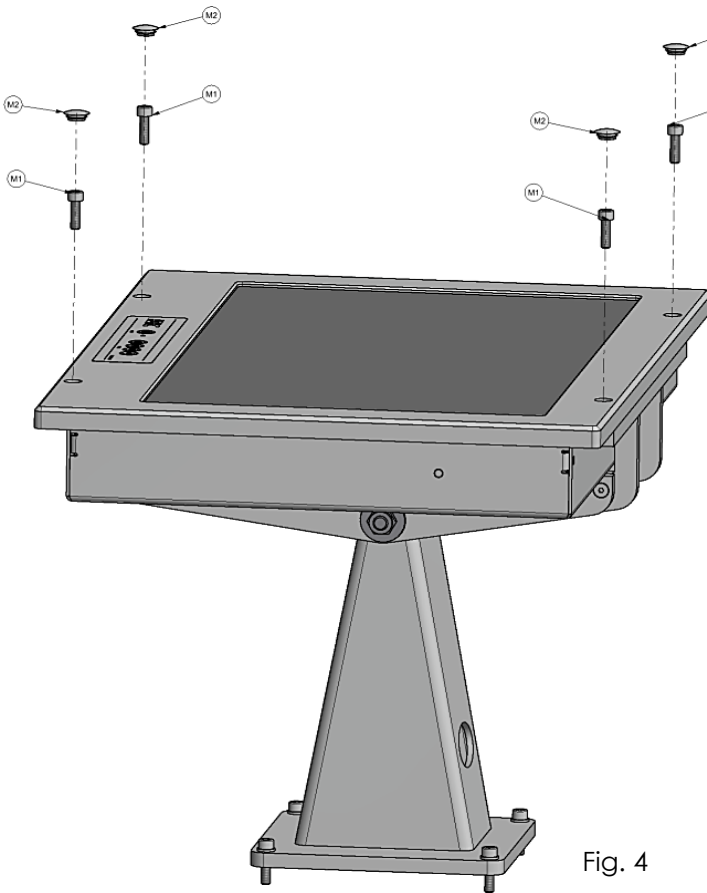

Fig. 4
3. Fasten the four screws and four blind plugs (monitor kit M1 and M2) (fig 4)